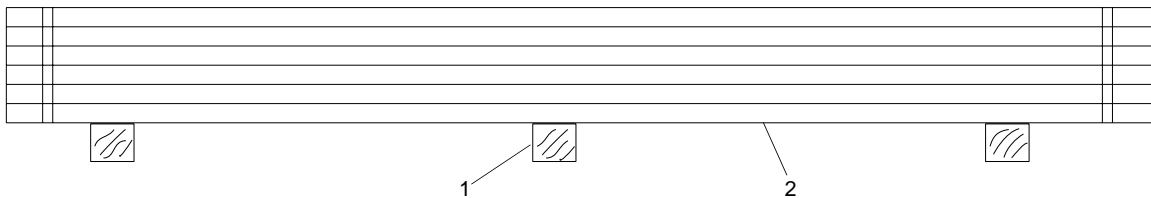

Figure 30. Stacking Deck Mats
6. Position three 4 in. X 4 in. wood beams (figure 30, item 1) on FC pierhead in an area where deck mats (figure 30, item 2) can be stacked.
7. Stack deck mat (figure 30, item 2) on three 4 in. X 4 in. wood beams (figure 30, item 1).
8. Continue to stack deck mats (figure 30, item 2) one on top of the other, six mats per stack.
9. Repeat above procedure for remaining deck mats (figure 30, item 2).